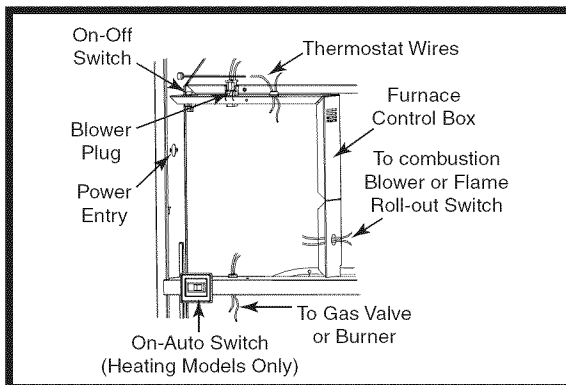

Figure 24. Control Panel (All Models)
5. Transit-mode weather cap to be removed and upper Roof Jack crown installed (See Figure 24). Do Not Discard screws.
7. Secure in place using three (3), #10, 1/2" sheet metal screws removed in step 5. Do not use the same holes which secured the rain cap in place.
2. Route wires (115 VAC) through the strain relief on the left side of the furnace control box (see Figure 24).